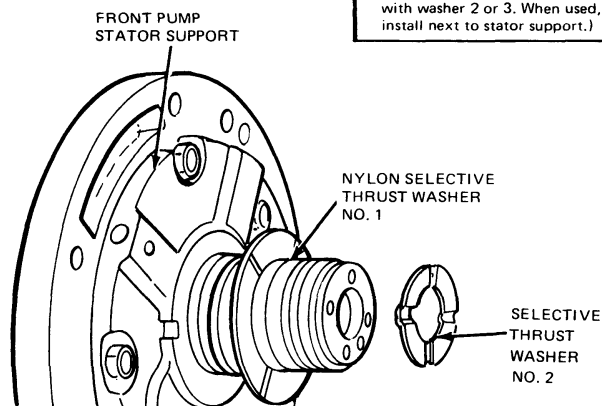

FIG. 17 Selective Thrust Washer Locations
- Record the dial indicator reading. The end play should be 0.203-1.066mm (0.008-0.042 inch). If the end play is not within specification, the selective thrust washers (Fig. 17) must be replaced as required. The selective thrust washers (No. 1 and 2) can be replaced individually to obtain the specified end play.
8. If thrust washer No. 2 (Fig. 17) did not come out with the front pump, remove the thrust washer from the forward clutch cylinder. If a selective spacer was used, remove the spacer. Remove the forward clutch from the forward clutch hub and ring gear (Fig. 24).